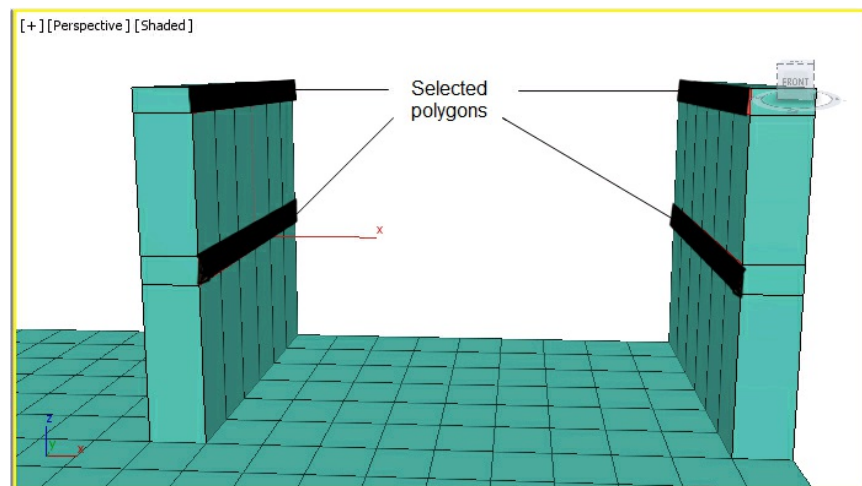

Figure 9-79 Selected polygons of the extruded part
9. Select the **Polygon** sub-object level. Next, select the polygons from the upper extruded part, as shown in Figure 9-79.